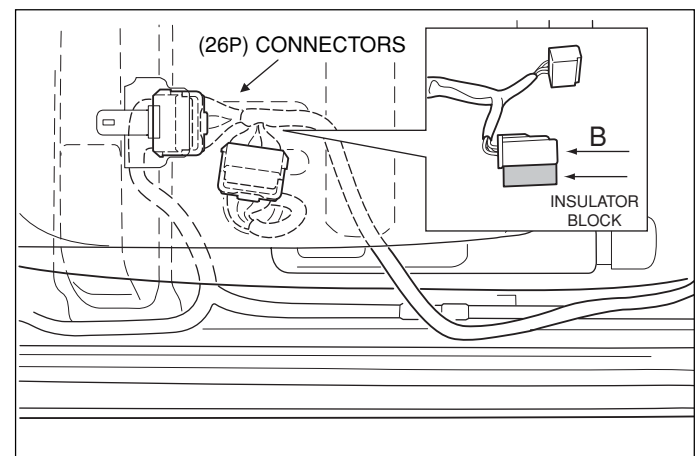

Fig. H5
- ➔ i. Attach the insulator block to the under side of the converter (26P) wire harness male connector (B). (Fig. H5)
- ➔ ii. Connect the converter (26P) connectors between the 2 vehicle side (26P) connectors as shown. (Fig. H5)
- ➔ iii. Route the (26P) connector wire harness as shown. (Fig. H5)
- ➔ iv. Secure the (26P) wire harness male connector (B) to the floor of the cab as shown. (Fig. H5)